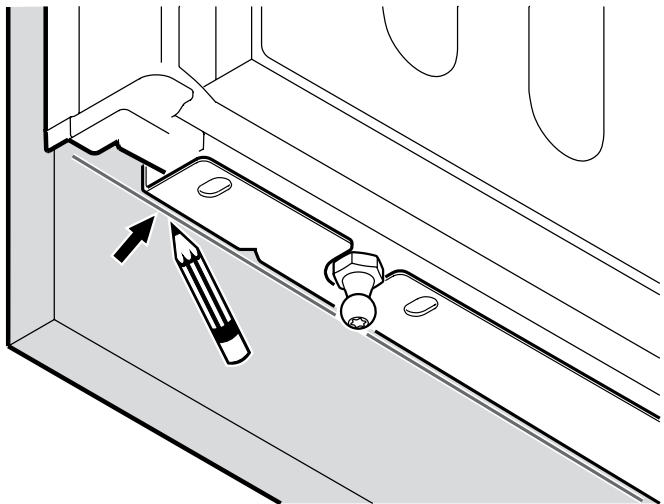

Figure 27
6. Transfer the lower edge of the attachment bracket onto the panel using a pencil. (**Figure 27**). Remove the panel from the refrigerator door.